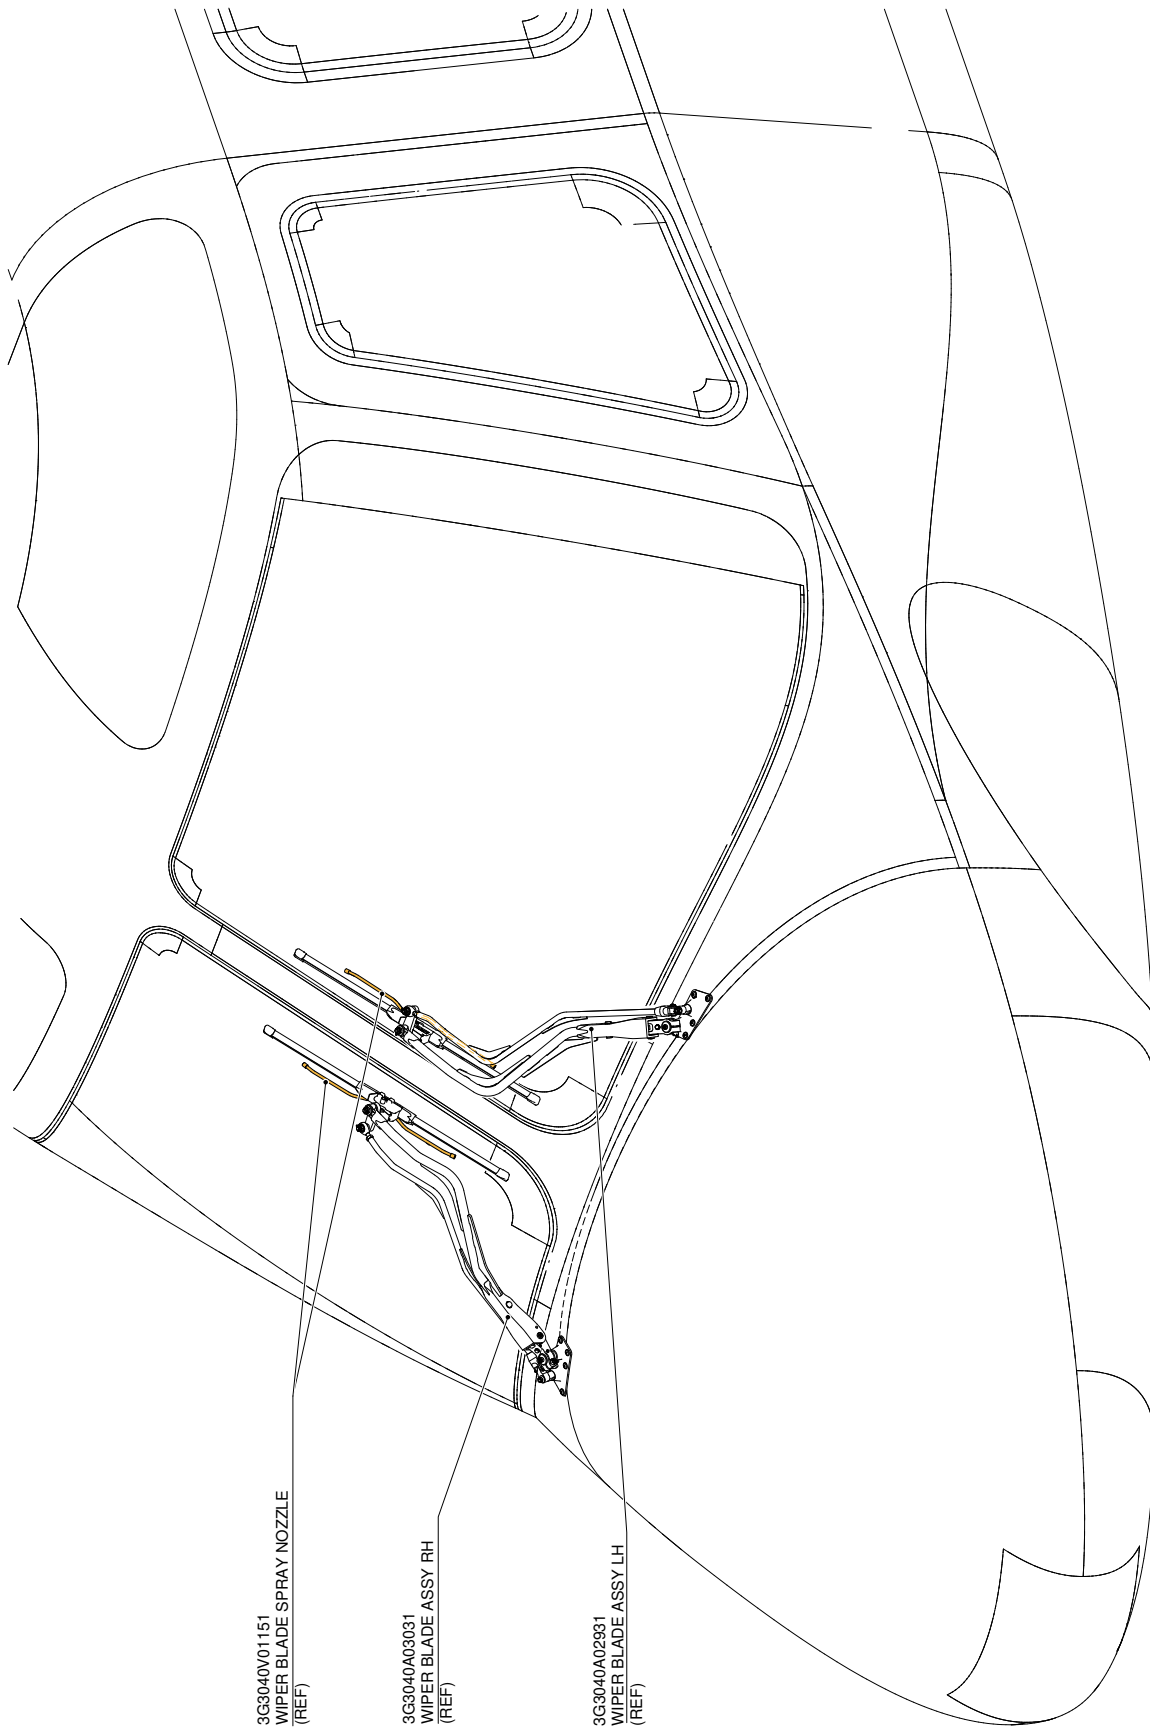

Figure 1
2. With reference to Figure 1, gain access to the wiper blades area of the helicopter.
3. With reference to Figure 1 and the example pictures in SB-85-479-001 in Annex A (page 7 of 7), check the serial number of each wiper blade spray nozzle(s) P/N 3G3040V01151. If the serial number is included in the effectivity of this Service Bulletin, take a picture of the component with visual evidence of the serial number and note the required information in the table of Figure 2. Discard and locally scrap the affected component(s).
4. With reference to Figure 1 and in accordance with Aerosystems Service Bulletin SB-85-479-001 in Annex A, perform the replacement of the affected wiper blade spray nozzle(s) installed on the wiper blade assy LH P/N 3G3040A02931 and/or RH P/N 3G3040A03031.